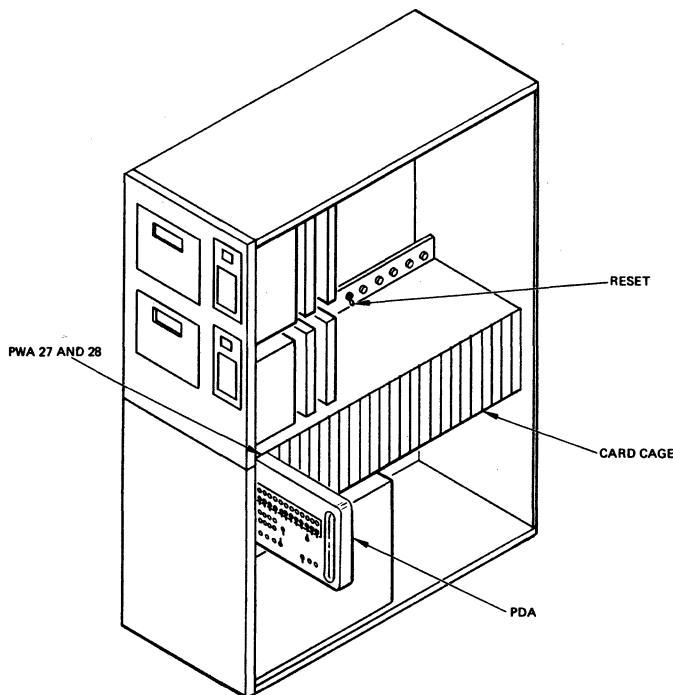

Figure 6-1. PDA Installation
4. Install the PDA into sockets 27 and 28 of the card cage, as shown in Figure 6-1.
7. Depress and release the START pushbutton. After the system buzzer sounds, depress and release the system RESET toggle switch to reset the system and zero the ROM Address Register (socket 9). This switch, shown in Figure 6-1, is located on the card cage. It is a momentary type and will spring back when released.